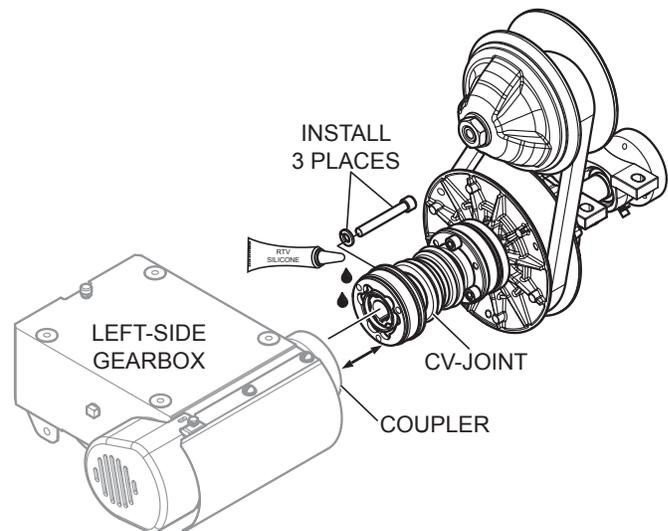

**Figure 35. Spare Drive Belt Routing**
4. Slide the new spare drive belt between the gearbox coupler and CV-joint (Figure 35).
5. Mount the new spare drive belt and cover (Figure 35) onto the left-side gearbox. Reinstall the two bolts that secure the spare belt holder to the left-side gearbox adapter plate.